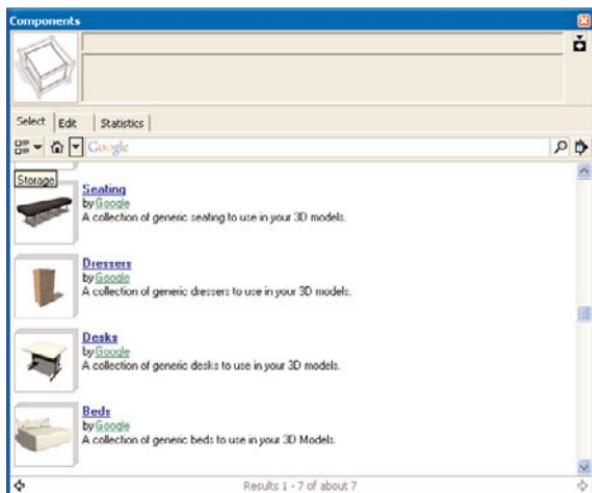

FIGURE 6.16 The Furniture component collections.
5. Select the **Furniture** item. This displays the items in the Furniture collection of Google’s 3D warehouse, as shown in Figure 6.16.